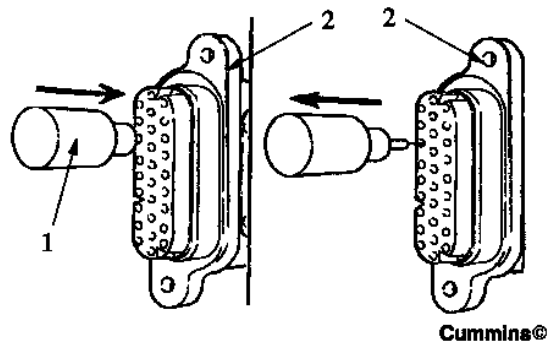

Figure 63 Special Tool
2. Inspect the connector for "pushed back" or "expanded" terminals, using a special tool, Cummins Part No. 3823383, Figure 63 . Insert the tool into each AMP connector terminal. Do not force the tool into the terminal.